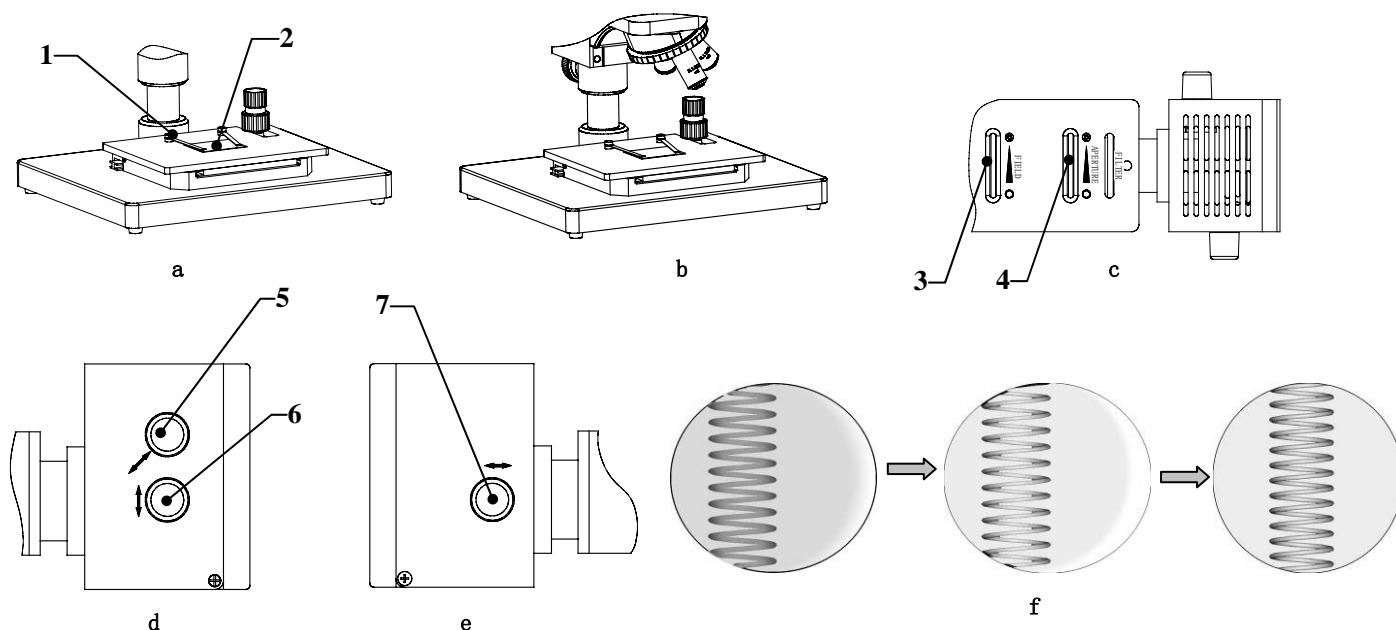

Fig.9
- (1) Prepare a piece of white paper 2 (about 40mmX50mm) and place it on the working stage, press it with spring clip 1, as shown in Fig. 9-a.
- (2) Take out a objective and turn the nosepiece to make the through-hole into optical path, as shown in Fig.9-b.
- (3) Open the field diaphragm 3 and aperture diaphragm 4, At this point, a bright light spot will be shown on the white paper, with a filament image inside, as shown in Fig.9-f.
- (4) If the filament image is unclear, adjust the collector lens to make clear by adjusting knob 7.
- (5) If the filament image deviates from the center of the bright light spot, as shown in Fig.9-f, the bulb center should be adjusted, adjust the lamp transverse adjustment knob 5 and vertical adjustment knob 6 to calibrate bulb center.